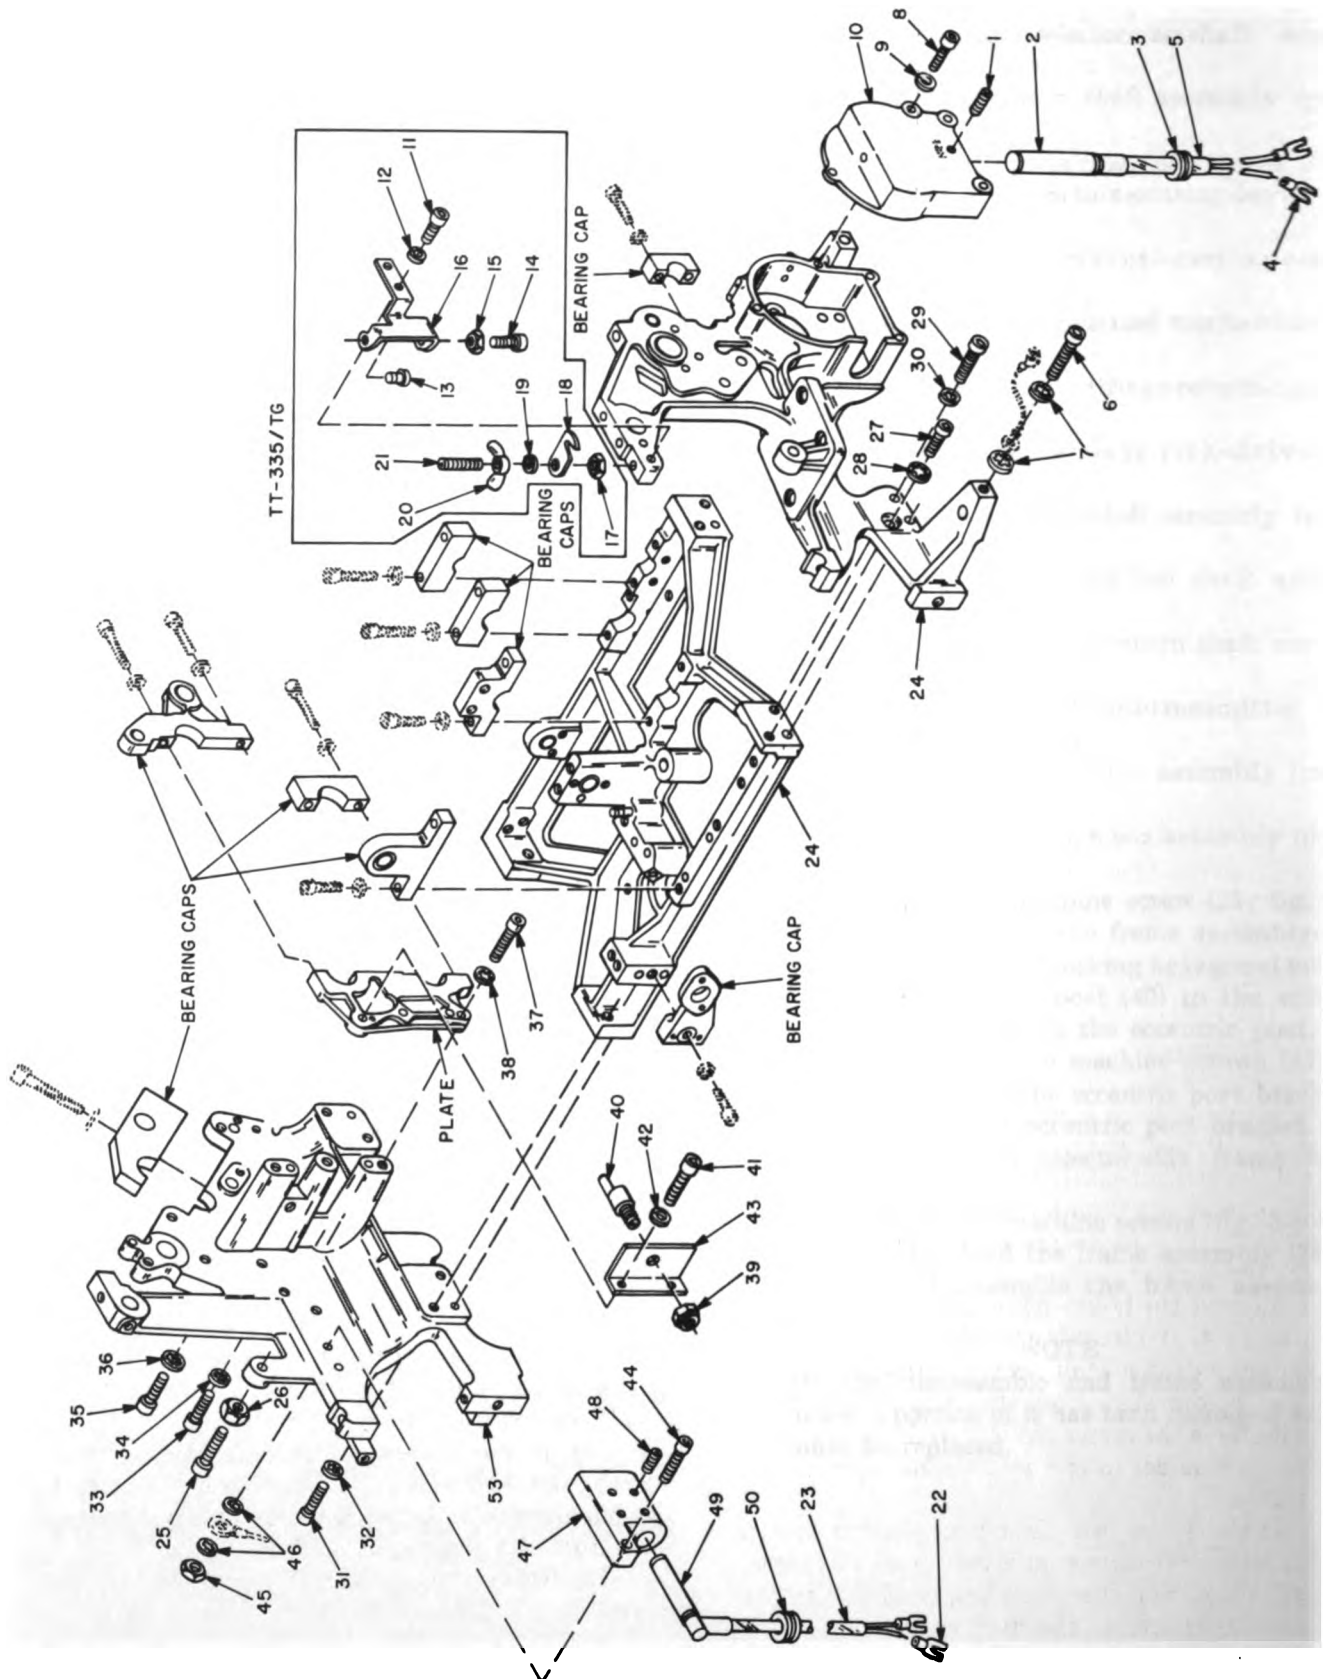

Figure 3-80. Teletypewriter frame assembly (TT-335/TG and TT-537/G), exploded view.
(fig. 3-80)
- (1) Remove the dust cover (para 3-22a ).
- (2) Remove the paper shaft, paper-shaft bracket, and paper chute (para 3-23a ).
- (3) Remove the assembled teletypewriter from the mounting base (para 3-25a ).
- (4) Remove the teletypewriter motor (para 3-26a ).
- (5) Remove the keyboard-transmitter (para 3-27a ).
- (6) Remove the platen assembly (para 3-28a ).
- (7) On TT-335/TG only, remove the two machine screws (11, fig. 3-80) and lockwashers that hold the platen bracket (16) to the frame assembly. Remove the bumper (13), machine screw (14), and hexagonal nut from the platen bracket.
- (8) On TT-335/TG only, loosen the hexagonal nut (17) and remove the assembled items from the frame assembly. Remove the hexagonal nut, platen lock, lockwasher, and wingnut (20) from the set-screw.
- (9) Remove the carriage assembly (para 3-29a ).
- (10) Remove the line terminal board (para 3-30a ).
- (11) Remove the instrument panel (para 3-32a ).
- (12) Remove the selector-magnet assembly (para 3-58a ).
- (13) Remove the rangefinder (para 3-59a ).
- (14) Remove the selector levers and Y-levers (para 3-62a ).
- (15) Remove the transfer-lever-shaft assembly (para 3-63a ).
- (16) Remove the print-bail-blade shaft assembly (para 3-64a ).
- (17) Remove the signal-bell assembly (para 3-65a ).
- (26) Remove the manual-carriage-return mechanism (para 3-83a ).
- (27) Remove the carriage-feed mechanism (para 3-85a ).
- (28) Remove the carriage-return-operating mechanism (para 3-86a ).
- (29) Remove the carriage-rack-drive-shaft assembly (para 3-89a ).
- (30) Remove the margin-bell assembly (para 3-90a ).
- (31) Remove the carriage-feed shaft assembly (para 3-92a ).
- (32) Remove the carriage-return shaft assembly (para 3-94a ).
- (33) Remove the keyboard-transmitter drive-shaft assembly (para 3-96a ).
- (34) Remove the motor-stop assembly (para 3-99a ).
- (35) Remove the junction box assembly (para 3-104a ).
- (36) Remove the machine screw (25, fig. 3-80) and hexagonal nut from the frame assembly.
- (37) Remove the self-locking hexagonal nut (39) that holds the eccentric post (40) to the eccentric post bracket (43); remove the eccentric post.